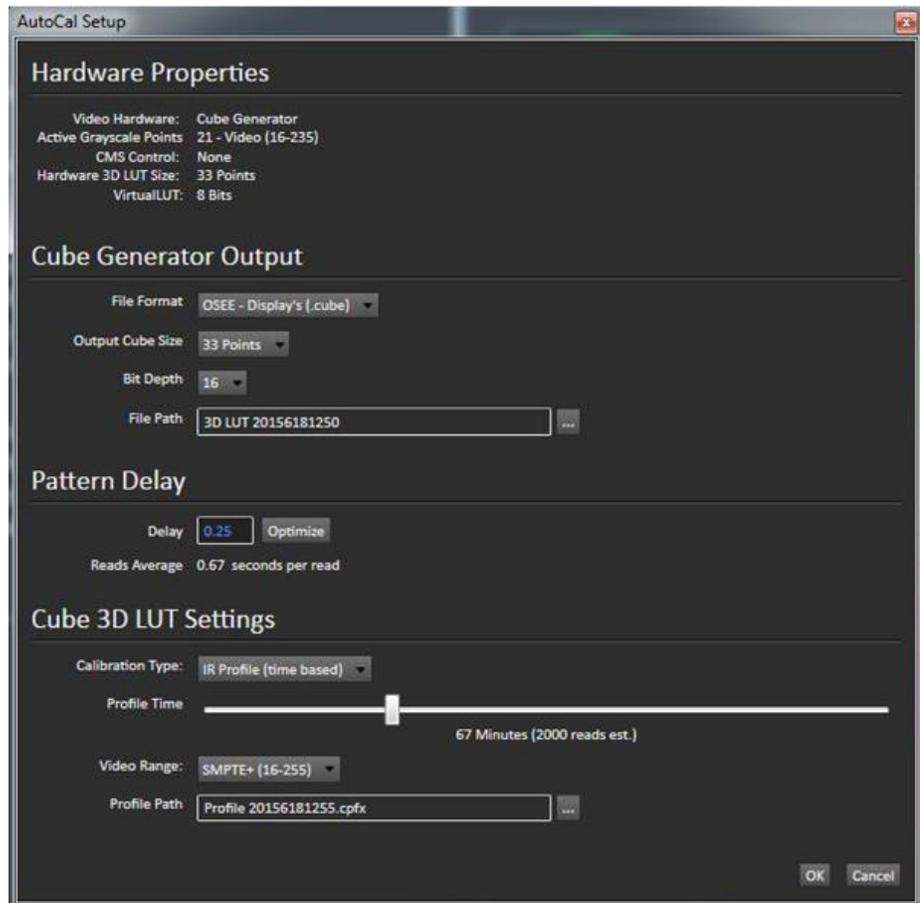

Figure 6. CalMAN AutoCal Setup dialog, for selecting options for 3D LUT creation.
1. On the *3D Cube LUT* page, click the *AutoCal* (rotating arrows) button at the right end of the meter action buttons. The *AutoCal Setup* dialog then appears (Figure 6).